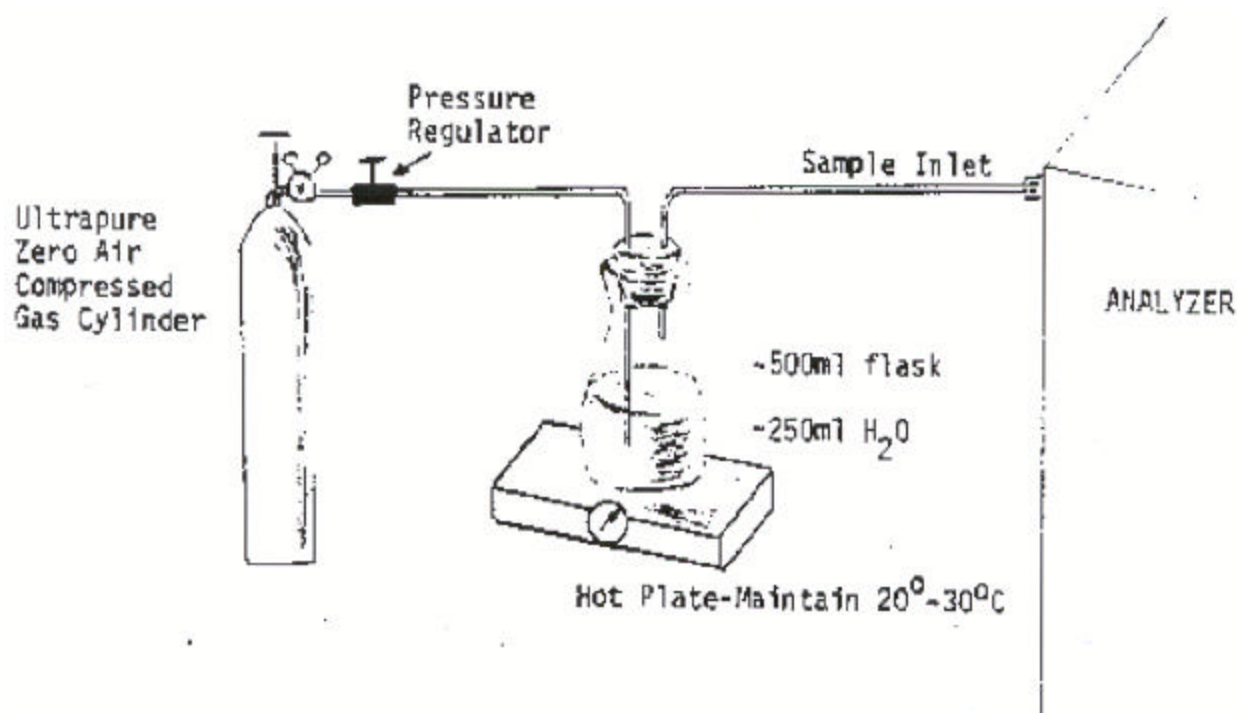

Figure B.3.0.1
- a. Perform the analyzer zero check as outlined in Figure B.3.0.1.